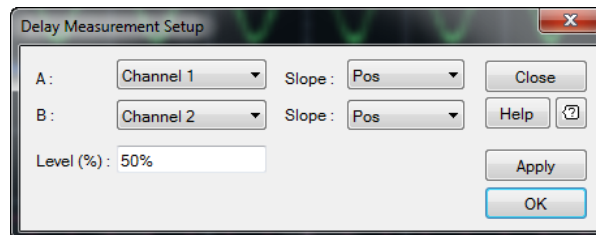

Figure 2-81 Delay Measurement Setup dialog
- 2 The Delay Measurement Setup dialog is displayed as shown in Figure 2-81.